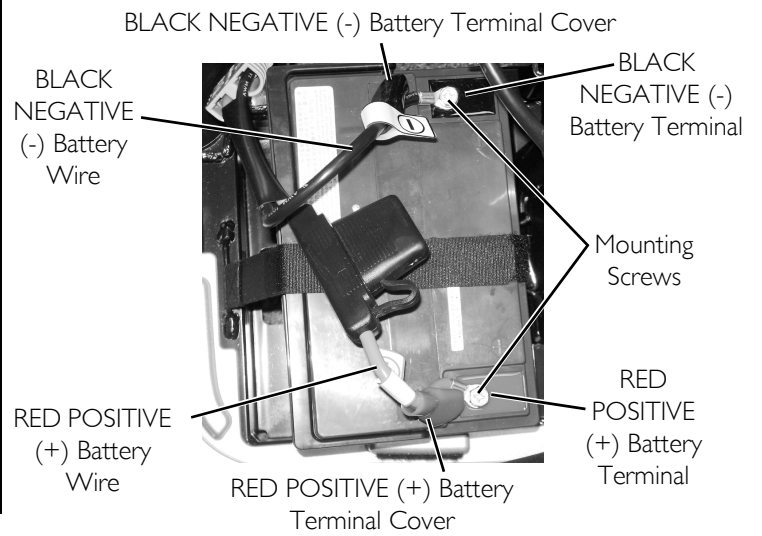

FIGURE 11.2 Removing/Installing the Batteries
When connecting the battery cables to the batteries, the battery cables **MUST** be connected to the battery terminals/posts as shown in FIGURE 11.2 - otherwise damage to the battery may result.
NOTE: For this procedure, refer to FIGURE 11.2 on page 33.
3. Pull up to remove the rear cover (Detail “A” of FIGURE 11.2).
4. Open the battery retention strap (Detail “B” of FIGURE 11.2).
6. Remove the batteries from the base frame (Detail “C” of FIGURE 11.2).
7. Pull the battery terminal covers up on the battery wiring harnesses to expose the mounting screws (Detail “D” of FIGURE 11.2).
1. Connect the battery wiring harnesses to the new batteries (Detail “D” of FIGURE 11.2). Use the mounting screws to secure the:
3. Install the two new batteries into the base frame (Detail “C” of FIGURE 11.2).
NOTE: Orient the batteries as shown in Detail “B” of FIGURE 11.2.
NOTE: The battery retention strap should go under the battery harnesses as shown in Detail “B” of FIGURE 11.2.
6. Install the rear cover (Detail “A” of FIGURE 11.2).